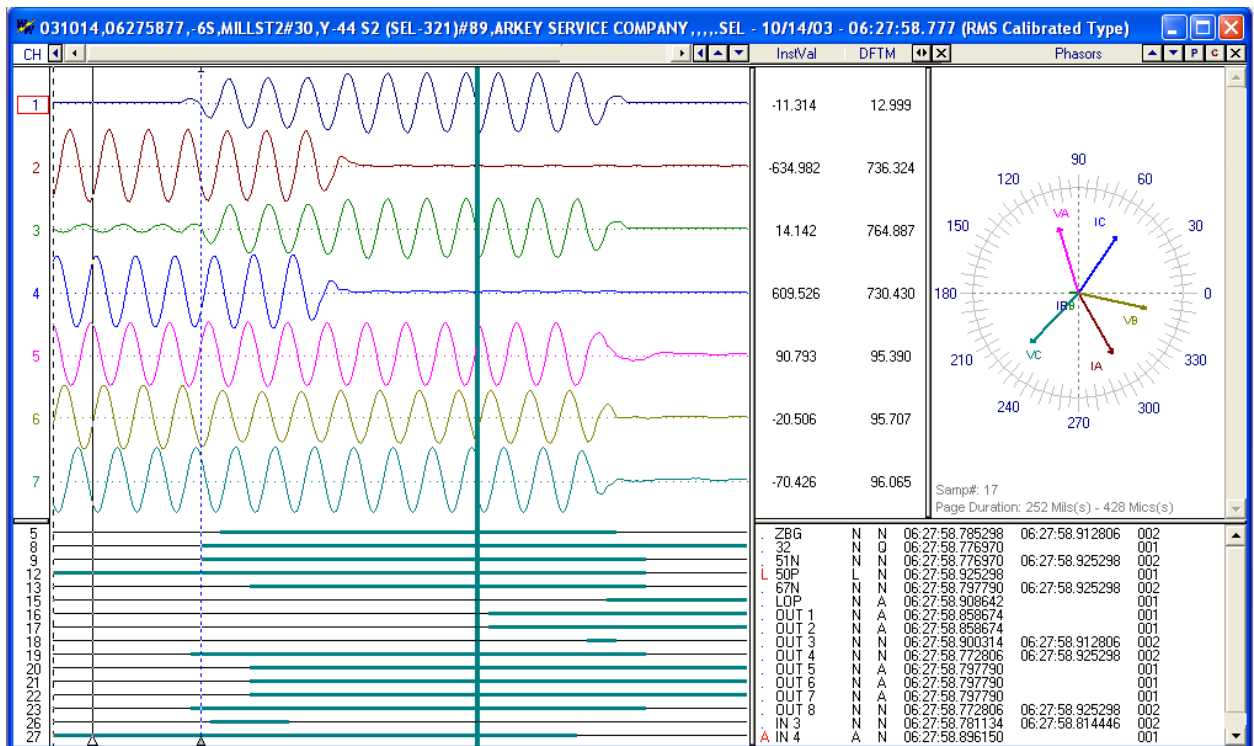

Figure 1.20 Append Waveform Files: Back to Back
- Back to Back: The files are appended back to back. No samples are deleted. Refer to Figure 1.20.